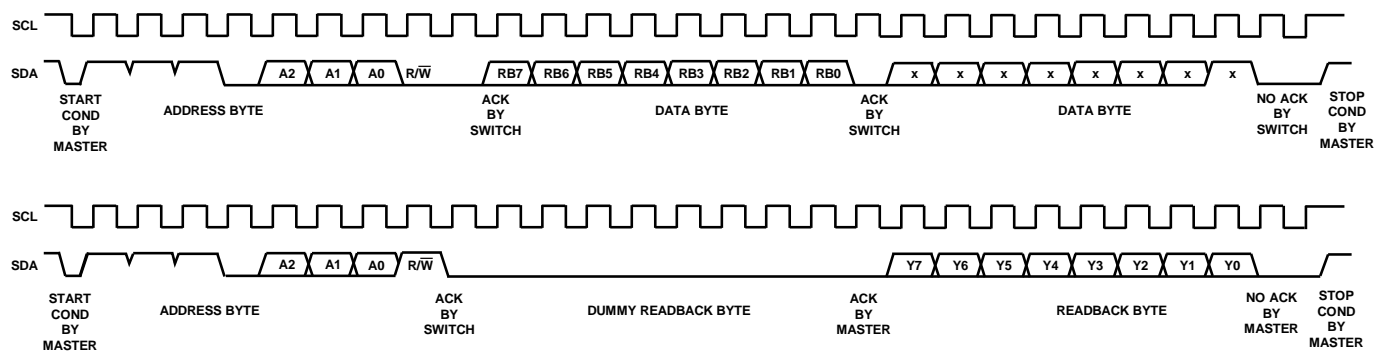

Figure 35. Read Operation
- b. Enter the readback address for the X line of interest, the addresses of which are shown in Table 8. Note that the ADG2188 is expecting a 2-byte write; therefore, be sure to also enter another byte of don't cares (see Figure 35).
The entire read sequence is shown in Figure 35.